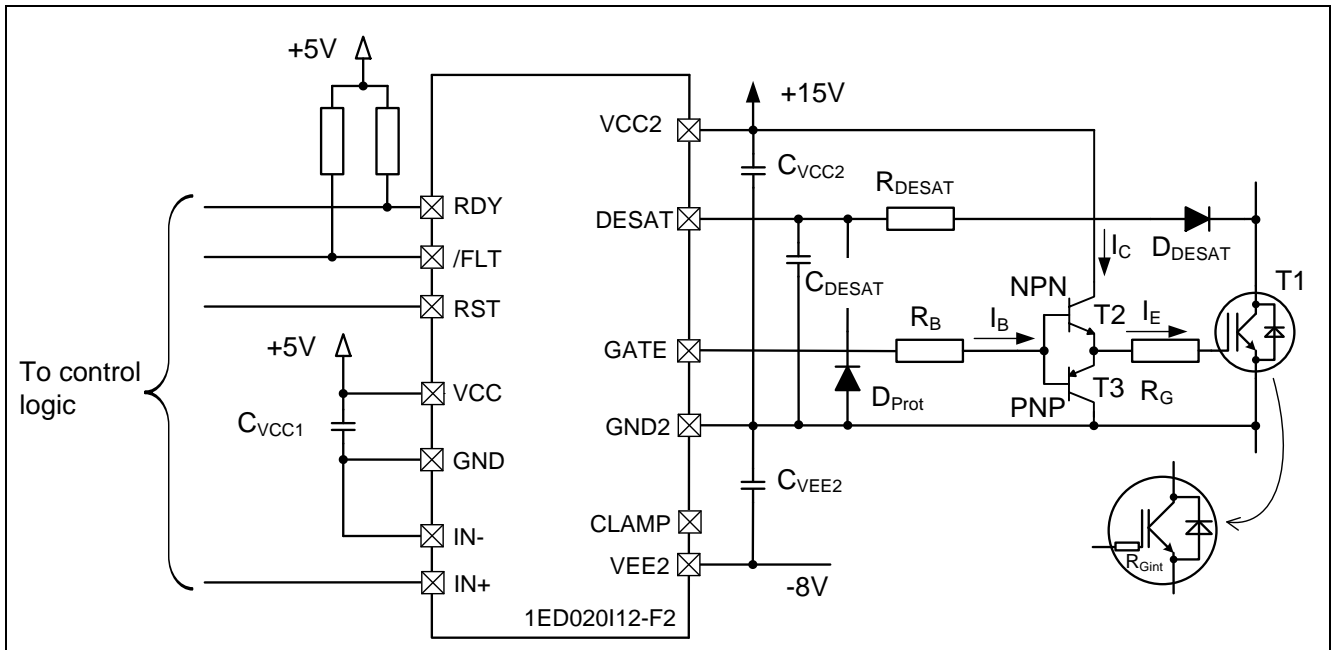
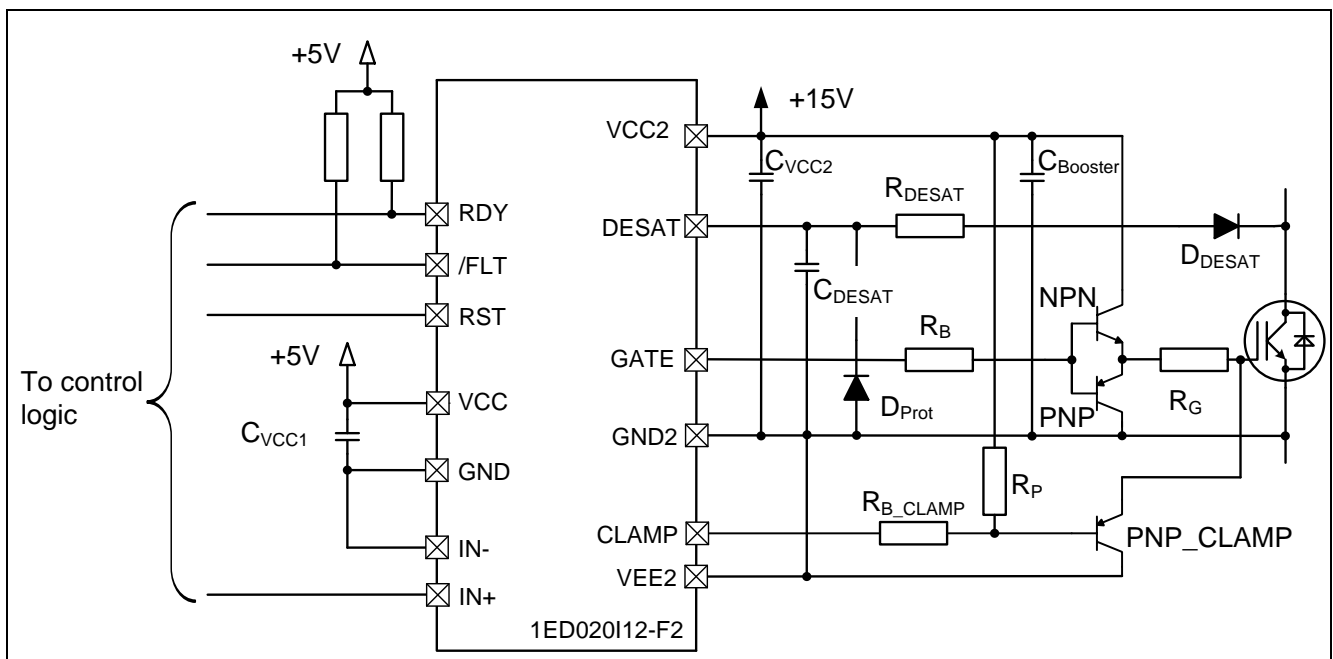

Figure 1 Example circuit for driving large IGBT modules (bipolar supply for driver IC)
Figure 4 Example circuit for Active Miller Clamp feature with external booster (unipolar supply for driver IC)
A typical external booster circuit can normally be built with a discrete NPN/PNP complimentary output stage which is added to the output of a driver IC. One possible implementation is shown in Figure 1. The NPN and PNP booster transistors should be fast switching and have sufficient current gain to deliver the desired peak output current. The circuit, seen in Figure 1, depicts the output external booster being used with an Infineon 1ED020I12-F2 driver IC.
- 1) The Active Miller Clamp feature of the 1ED020112-F2 family can be used together with external booster (mainly in the unipolar supply case). When the Miller current is larger than the maximum clamping capability of driver IC (2A for 1ED020112-F2), an additional sinking path will be needed along the clamping path (between gate of IGBT and CLAMP pin). The booster transistor itself also has sinking capability, but due to the exist of the gate resistor (R_G), this sinking capability is probably not enough. Figure 4 gives an example about how to implement this additional sinking path. Here the PNP_CLAMP transistor should have the same current capability as the PNP transistor of the external booster. R_{B_CLAMP} is the base resistor for the PNP_CLAMP transistor, and the sizing is according to PNP_CLAMP transistor. R_p is used as a pull-up resistor for safety reasons, and the recommended value is in 10kΩ range (to limit the current which runs through R_p in mA range to save power).
- 2) It is possible when the bipolar supply is used that VEE2 is not at same potential as GND2 but has a negative value. In this situation, the Active Miller Clamp feature is normally not necessary. The CLAMP pin can simply be left open (as depicted in Figure 1). The resistance values of R_G and R_B need to be adjusted accordingly since the voltage step ($\Delta V_{out} = VCC2 - VEE2$) is changed.
- 3) If the bipolar supply needs to be used together with the Active Miller Clamp feature, the additional sinking path (PNP_CLAMP and R_{B_CLAMP} as shown in Figure 4) needs to be adjusted accordingly with different VEE2 value. Note that this configuration is possible since the CLAMP pin is internally reference to VEE2 for Infineon 1ED driver IC family.
- 6) The power supply and the decoupling capacitor C_{VCC2} (as seen in Figure 1) need to be adjusted according to the external booster to ensure the quality of supply voltage, which should be enough to support the three main parts of the power consumption: the driver IC, the load (IGBT) and the external booster. Alternatively a separate decoupling capacitor solution can be used to optimize the layout: C_{VCC2} closes to the driver IC and $C_{BOOSTER}$ closes to external booster transistors (as shown in Figure 4).
To better understand it thoroughly, consider the calculations in the following example with real data. Using Figure 1 as the reference design, the 1ED020I12-F2 is the driver IC. The Infineon 600A IGBT module FZ600R12KP4 is used as the load, which can be driven properly by a 10A peak current. Now for the external booster, the ZXTN2031F [3] is the NPN transistor and ZXTP2025F [4] is the PNP transistor, which are paired transistors to each other and have similar parameters.
In case the unipolar supply and the Active Miller Clamp features are used as depicted in Figure 4, the calculation needs to be adjusted by the new voltage step ($\Delta V = VCC2$). The sizing procedure and the calculation of the clamping transistor PNP_CLAMP is similar to the PNP transistor of the external booster.